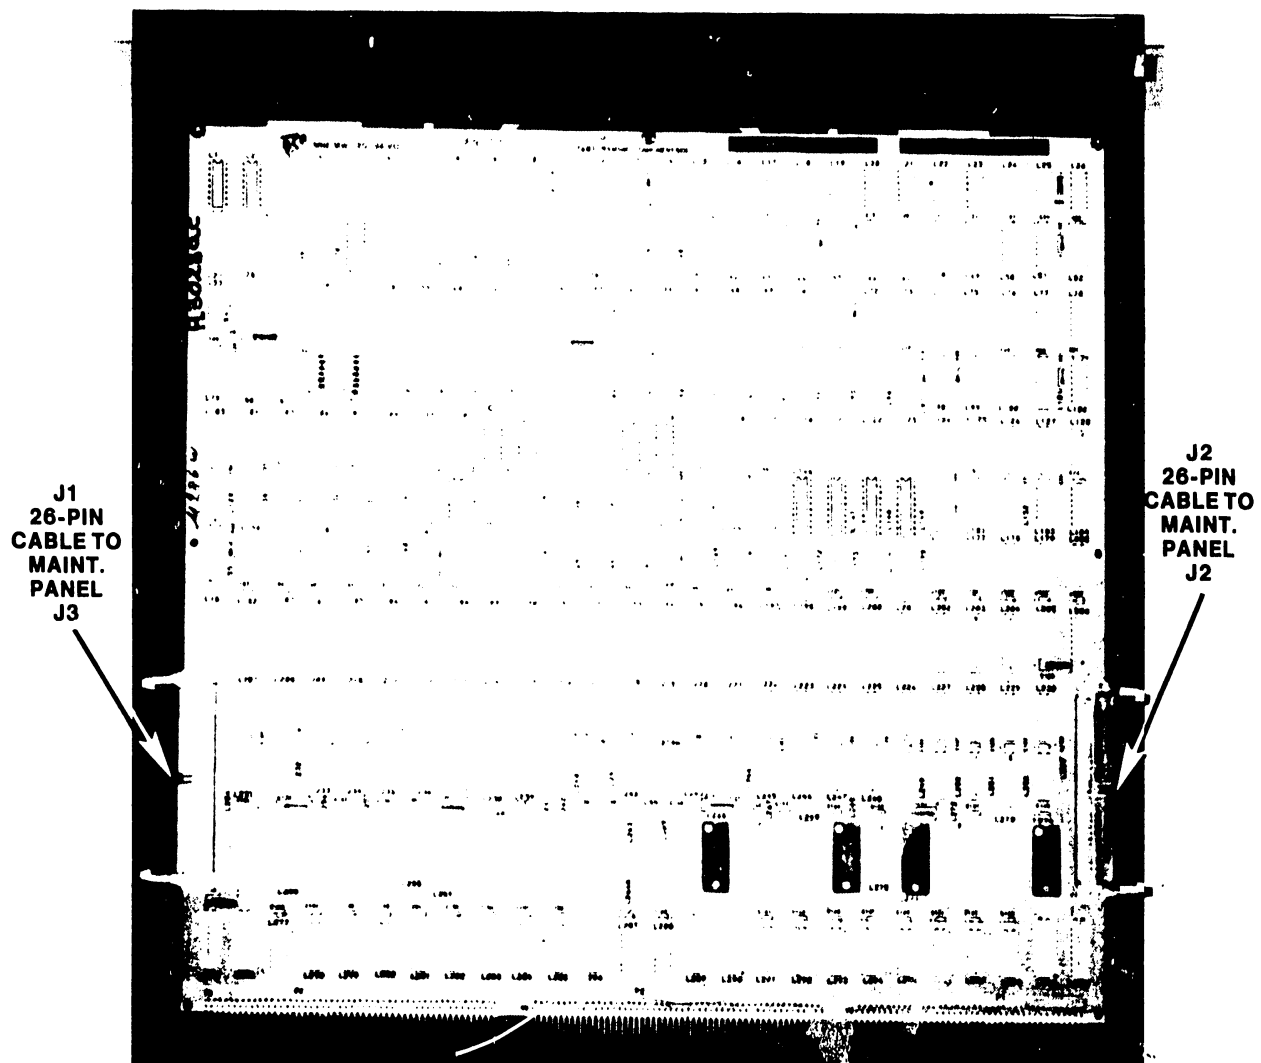

Figure 5-7. 210-7601 B Bus Board
1. Before removing the B Bus board (figure 5-7) from Motherboard slot #3, lower the fan assembly as described in paragraph 5.3.5.22. Remove the two Phillips screws securing the hinged cover over the fan safety screen inside the cabinet. Raise the cover, remove the screen, and turn the vertically mounted air flow baffle to the right. This allows access to the connectors on the rear of the circuit boards.